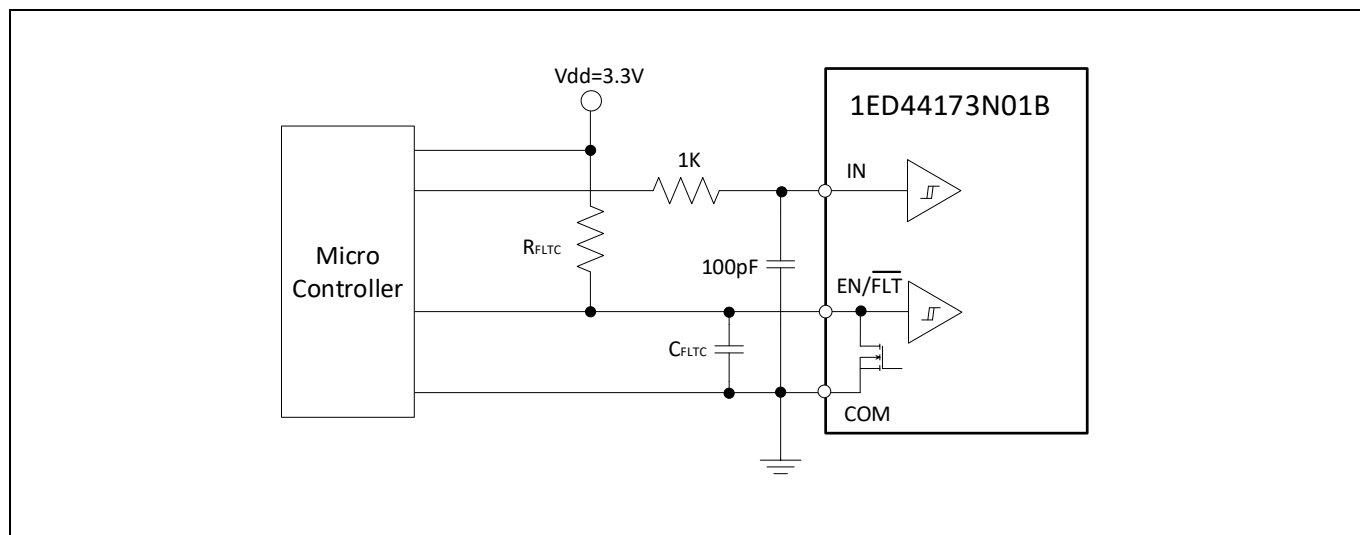
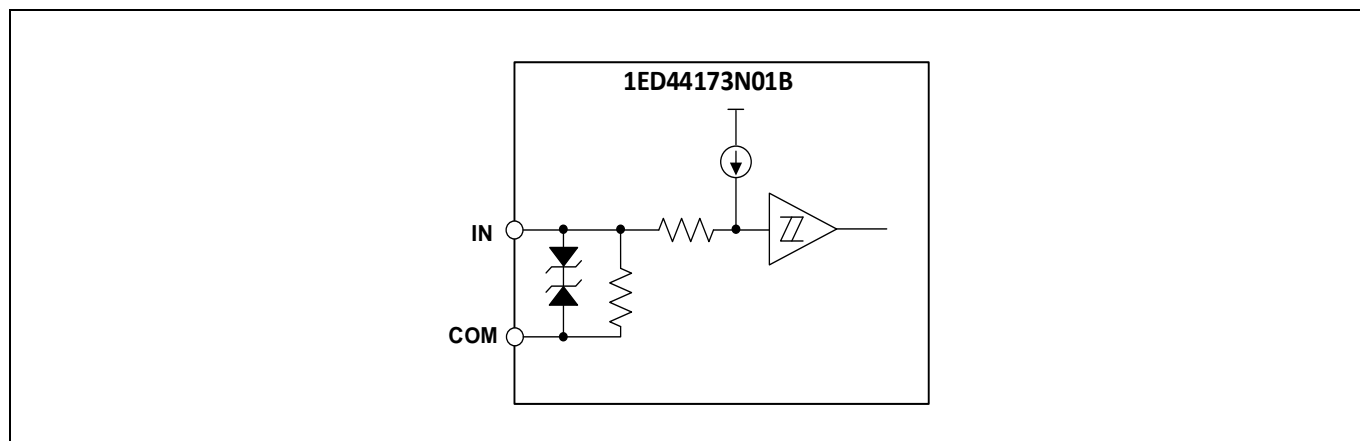

Figure 3 Recommended microcontroller I/O interface circuit
Figure 4 Simplified input structure diagram of 1ED44173N01B
- To prevent signal oscillations, an RC coupling is recommended as illustrated in Figure 3.
Figure 3 shows the I/O interface circuit between a microcontroller (μC) or digital signal processing (DSP) unit and the 1ED44173N01B. The 1ED44173N01B input logic is active-high. The $\text{EN}/\overline{\text{FLT}}$ output is an open-drain configuration. This signal should be pulled up to high by an external logic power supply with a pull-up resistor. RC (1 k Ω / 100 pF) is recommended for the input pin to prevent input noise.
As shown in Figure 4, the 1ED44173N01B input signal section integrates a pull-down resistor. Therefore, when using an external filtering resistor between the microcontroller output and 1ED44173N01B input, pay attention to the signal voltage drop at the 1ED44173N01B input terminal. It should fulfill the logic "1" input voltage requirement. For instance, $R = 1$ k Ω and $C = 100$ pF are recommended for the parts shown in Figure 3.